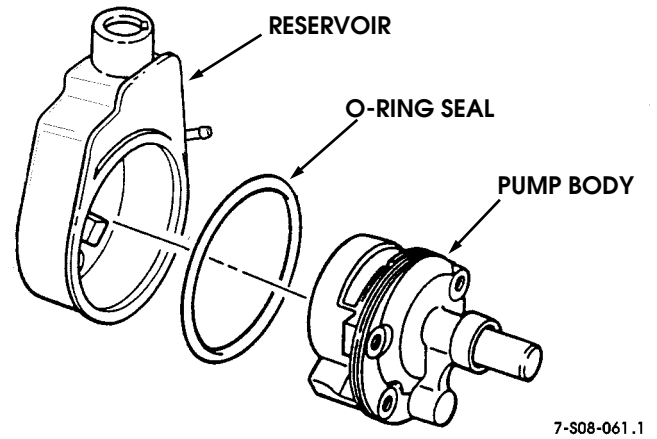

Figure 8-81: "O" Ring Installation
- 17. Install O-ring seal on pump body (Figure 8-81).